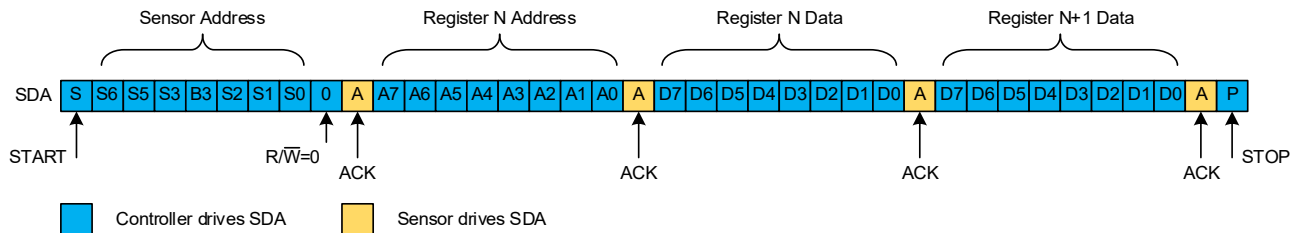

Figure 38: I²C Write Burst
- To write in the following register, the controller sends an additional frame with the 8-bit value to write in it (Figure 38).